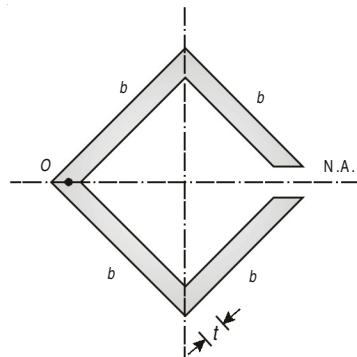

Fig. 12.27
12.4. The cross-section of the beam shown in Fig. 12.27 has a uniform wall thickness. Determine the location for shear relation to point O .